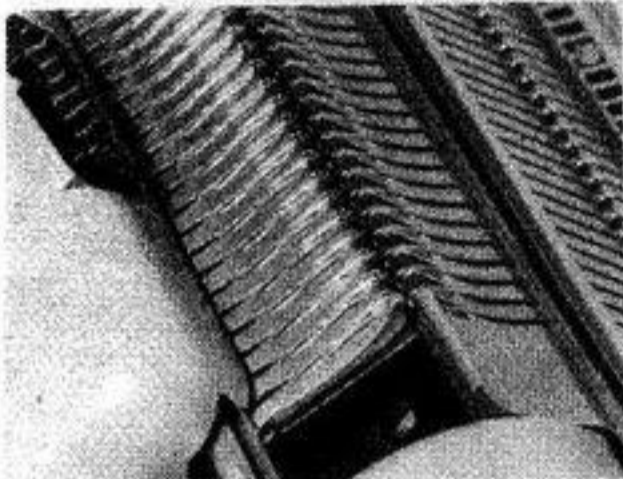

FIG. 4
**UPPER POSITION.** For knitting stocking stitch: Work with back cam box only (front CAM BOX is not used) (FIG. 4).